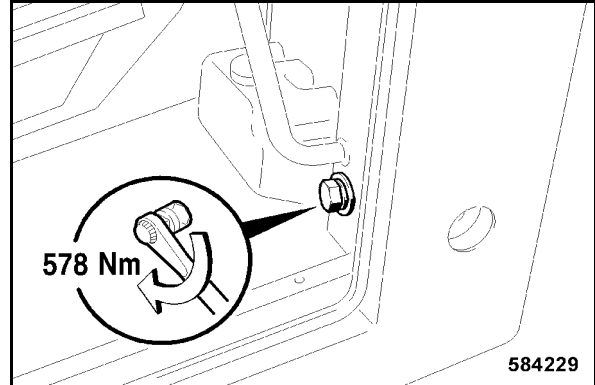

Fig. 213
- Tighten the bottom fastening screw on the access side (Fig. 213) with 578 Nm.